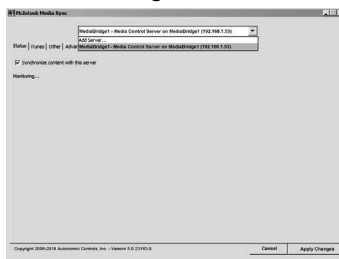

Figure 58
9. If the Server IP Address needs to be changed, select the top pull down window ▼ and then select the “Add Server”. Refer to figure 58.